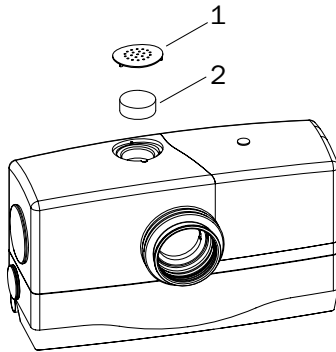

Figure 10
2. Remove the filter cover and the carbon filter (see page 41, fig. 10).